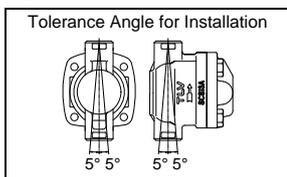

Figure 1
- This product must be installed vertically, with the inlet at the bottom and the outlet at the top, and should be inclined within 5° horizontally and front-to-back as shown right (Figure 1).